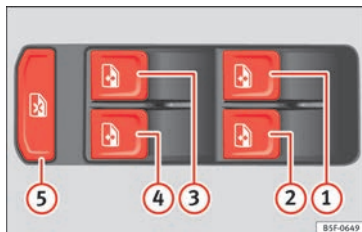

Fig. 133 Detail of the driver door: controls for the windows.
Buttons » Fig. 133 ①, ②, ③ and ④ have two positions for opening windows and two for closing them. This makes it easier to open and close windows to the desired position.